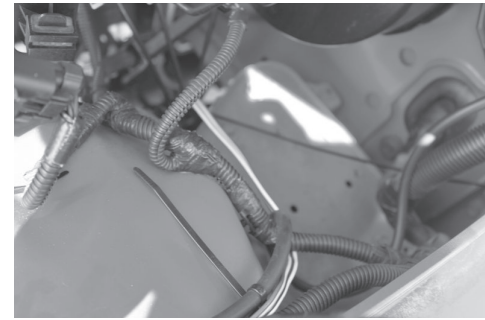

Figure 6
12. Near the engine compartment route the 4-Flat wire up the brake lines and along the factory wire harness along driver side of engine compartment shown in **Figure 6**. Route all the way to location near hood release. Secure 4-Flat to factory wire harness with cable ties.